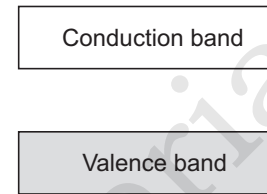

Fig. 4.12
3. Insulators. In insulators, the valence band is completely filled while the conduction band is empty. There is a large energy gap ($E_g > 3 \text{ eV}$) between the valence and conduction bands [Fig. 4.12]. For example, in case of diamond, the energy gap is of 6 eV. Since energy gap is large therefore no electron is able to go from valence band to the conduction band even if electric field is applied. Thus, electrical conduction is not possible through an insulator.